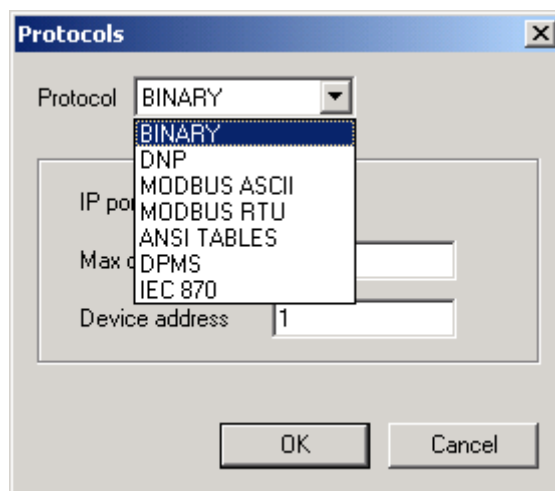

Figure 8: List of protocols
If you try to configure a meter for more than four (4) simultaneous connections JEMWARE will display a warning when you send the configuration to the meter. It will still send the config but once the first 4 connections have been assigned all further port assignments are ignored. Ports are assigned to protocols in the order of the list shown in Figure 8.